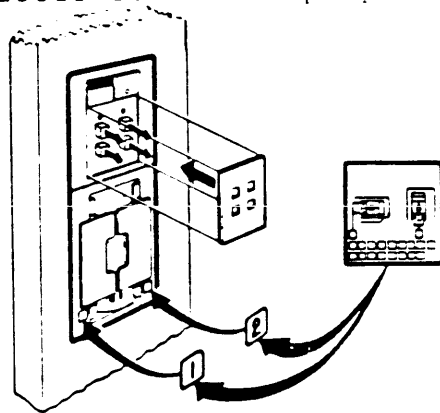

FIGURE 2-2. Orientation of Labels on a BA23-A enclosure.
Step 3: Label the control panel and diskette drive units. Figure 2-2 shows proper orientation.